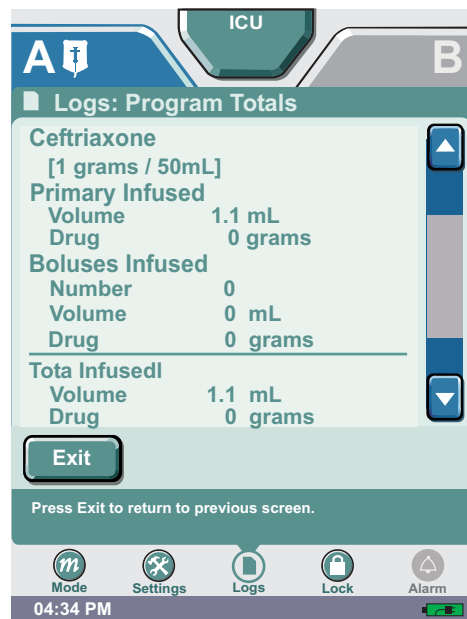

Figure 146: Program Totals Screen
The Program Totals screen shown in Figure 146 contains program totals for these items:
2. From the **Logs** menu screen, press **Program Totals**. See Figure 146.